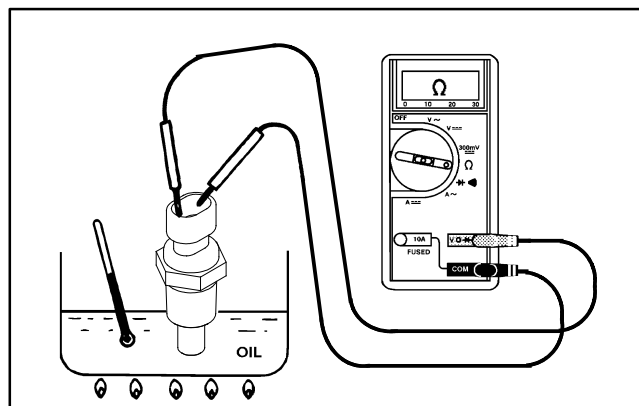

Figure 73
4. Put sender in a container of oil with a thermometer and slowly heat the oil (Fig. 73).